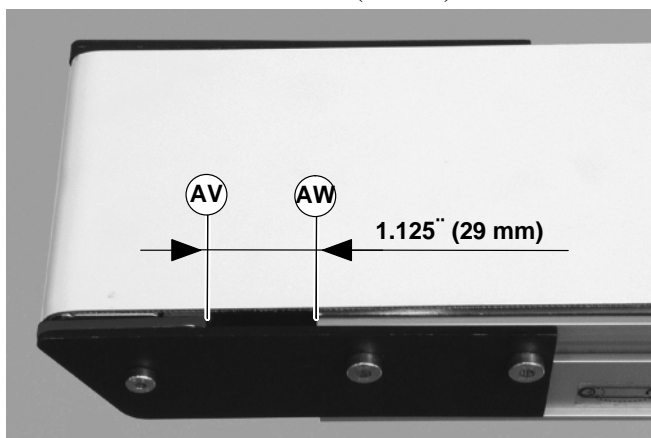

Figure 28
2. Adjust head plate assembly so the edge of the axle support plate (AV of Figure 28) is separated from the end of the conveyor (AW) by 1.125" (29 mm). Replace belt if proper tensioning can not be obtained within a distance of 1.50" (38 mm). See **NOTE**.